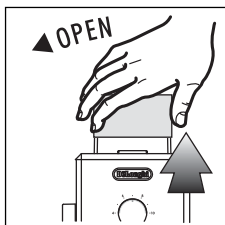
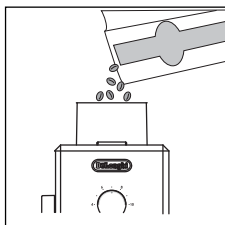
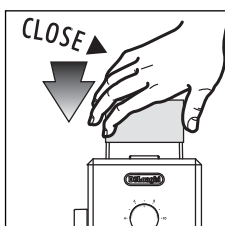

fig. 1
fig. 2
fig. 3
- Remove the lid of the coffee bean hopper (fig. 1) and fill the bean hopper to the level desired (fig. 2). Do not fill above the “max.” level. Replace the lid and make certain that it is correctly positioned, pressing it down till the end (fig. 3).